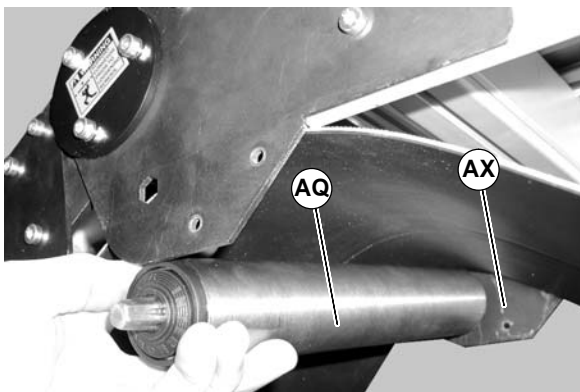

Figure 31
5. Install spring loaded return pulley (AQ of Figure 31) into knuckle plate (AX).